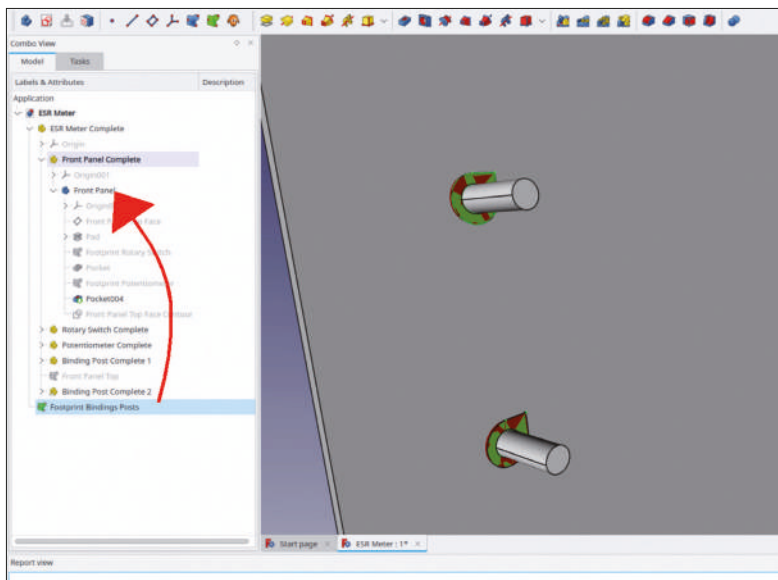

Figure 7-36
22. Click the green 'Create a sub object(s) shape binder' tool button. The shape binder will appear in the root branch of the tree. Rename it to 'Footprint Binding Posts'. Drag-and-drop it into the body 'Front Panel' (Figure 7-36).